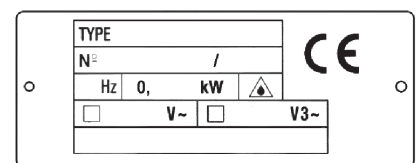

Figure 5 - Technical card - nameplate
At this point, ensure that the earthing system is in perfect working order. Also check that the type of current indicated on the identification plate (Fig. 5) is consistent with the voltage (V) and frequency (Hz) of the power line.
Connect the slicing machine to the 400 Volt 50 Hz three phase mains using a CEI plug (red), interposing a 10A, IΔn = 0.03 A RCD/circuit breaker. At this point, ensure that the earthing system is in perfect working order. Also check that the type of current indicated on the identification plate (Fig. 5) is consistent with the voltage (V) and frequency (Hz) of the power line. Before connecting the machine permanently to the three